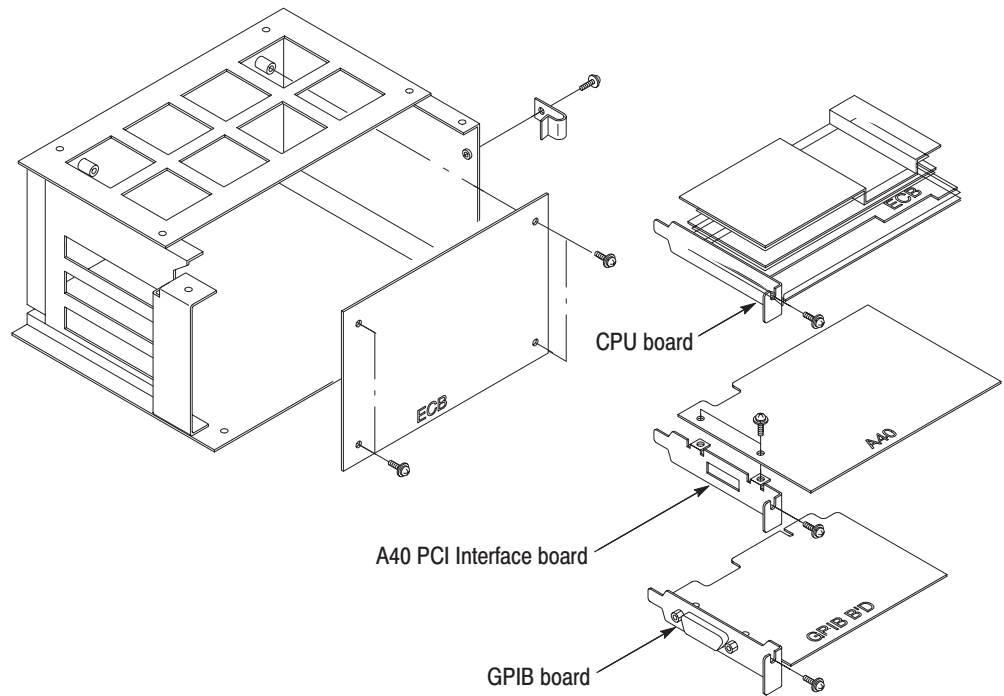

Figure 6-20: CPU, A40 PCI Interface, and GPIB boards removal
4. Remove the CPU Board using Figure 6-20 as a guide while doing the following substeps:
5. Remove the A40 PCI Interface Board using a screwdriver with a #2 Phillips tip to remove the screw on the left side of the A40 PCI Interface Board. See Figure 6-20.
7. Remove the GPIB board using a screwdriver with a #2 Phillips tip to remove the screw on the left side of the GPIB board. See Figure 6-20.
9. Remove the Back Plane by using a screwdriver with a #2 Phillips tip to remove the four screws securing the board to the frame. See Figure 6-20.